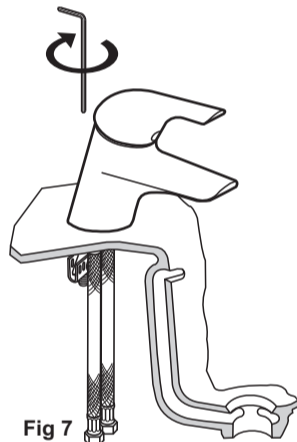

Fig 7
- When positioned correctly, tighten the fitting using the Allen key provided. (Pass the Allen key to the user for future use). (Fig 7)
- Once tightened, position the vertical pop-up rod (13) through the same vertical hole and connect this to the horizontal rod using the connector provided.